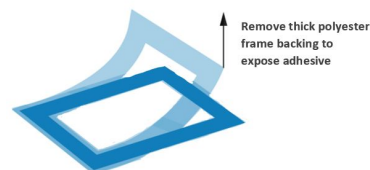

Figure 100: Remove polyester frame backing
4. Carefully remove the thick polyester frame backing (with the center square removed) from the incubation frame to expose the top adhesive layer of the incubation frame (Figure 100). **Ensure that the incubation frame does not lift from the slide when removing the polyester frame backing.**